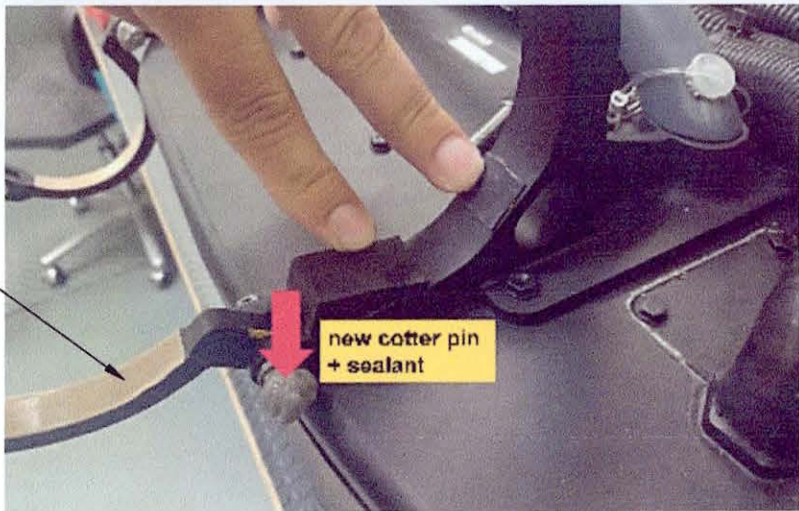

FIGURE 5: CONNECTION PLATE INSTALLATION
10. Attach the Fwd and Aft Connection Plates (both P/N D334M6025101) to the Dart brackets as shown in Figure 5. Re-use the bolts, washers, and castellated nut from the original brackets. Use new cotter pin P/N EN2367-14016 to secure the castellated nuts. Apply surface protection (CM0518) and seal sharp edges of cotter pins using PR1782 B2 or MC780 B1/2 or MC780 B1 or MC780 B2 sealant.